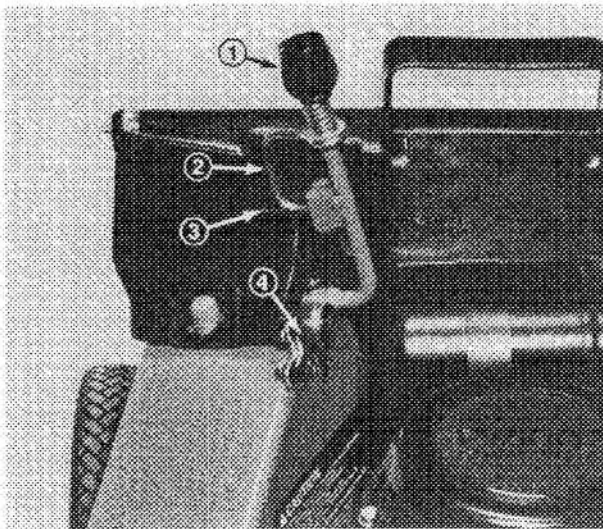

Figure 16
4. Squeeze lockout lever until it clears the housing latch. Then move handle rearward until it locks in notch at rear of bag latch (Fig. 16). The chute door in mower housing is now open and mower is ready to bag grass.